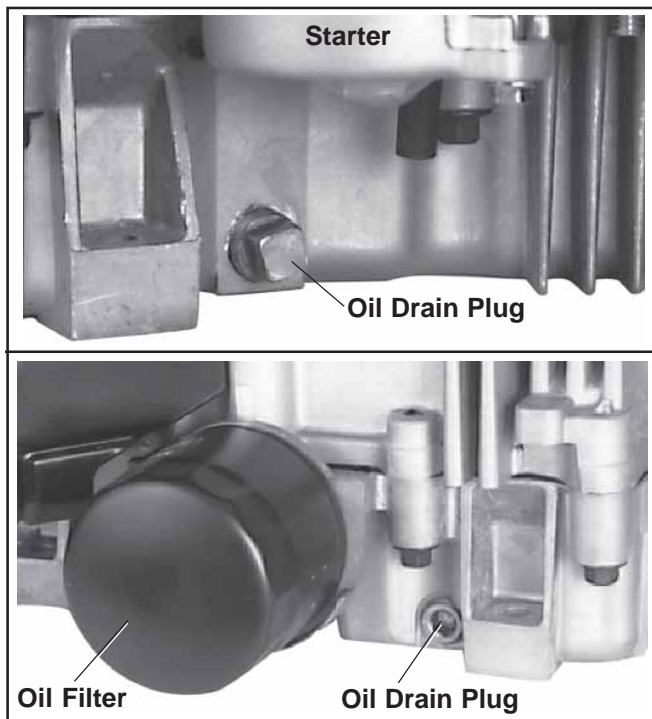

Figure 8. Oil Drain Plugs and Oil Filter.
Change the oil as follows (see Figure 8):
3. Before removing the oil filter, clean the area around the oil filter to keep dirt and debris out of the engine. Remove the old filter. Wipe off the surface where the filter mounts. See Figure 8.